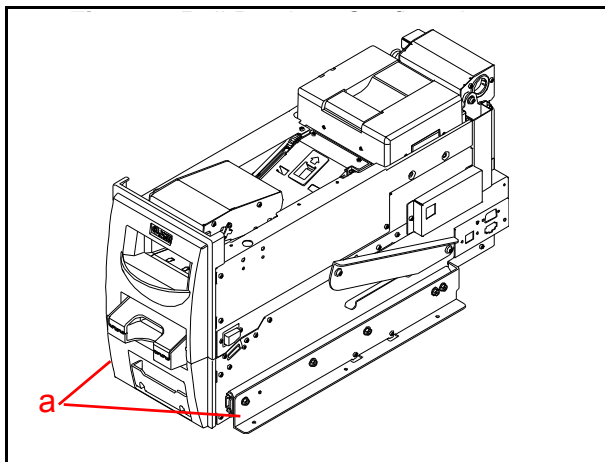

Figure 6 Rail Brackets Confirmation
1. Confirm that the Rail Brackets (Figure 6 a) were installed on both sides of RDM-100 Unit.